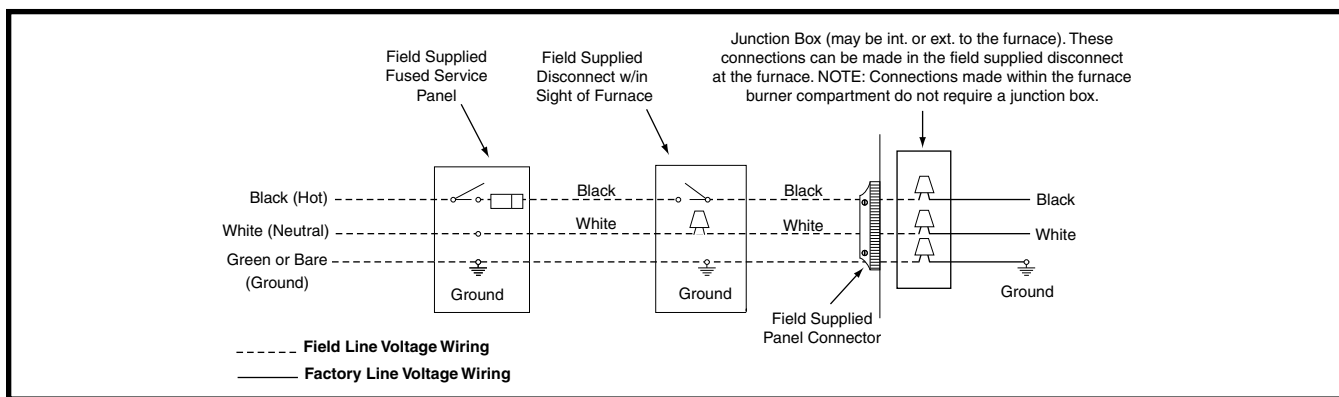
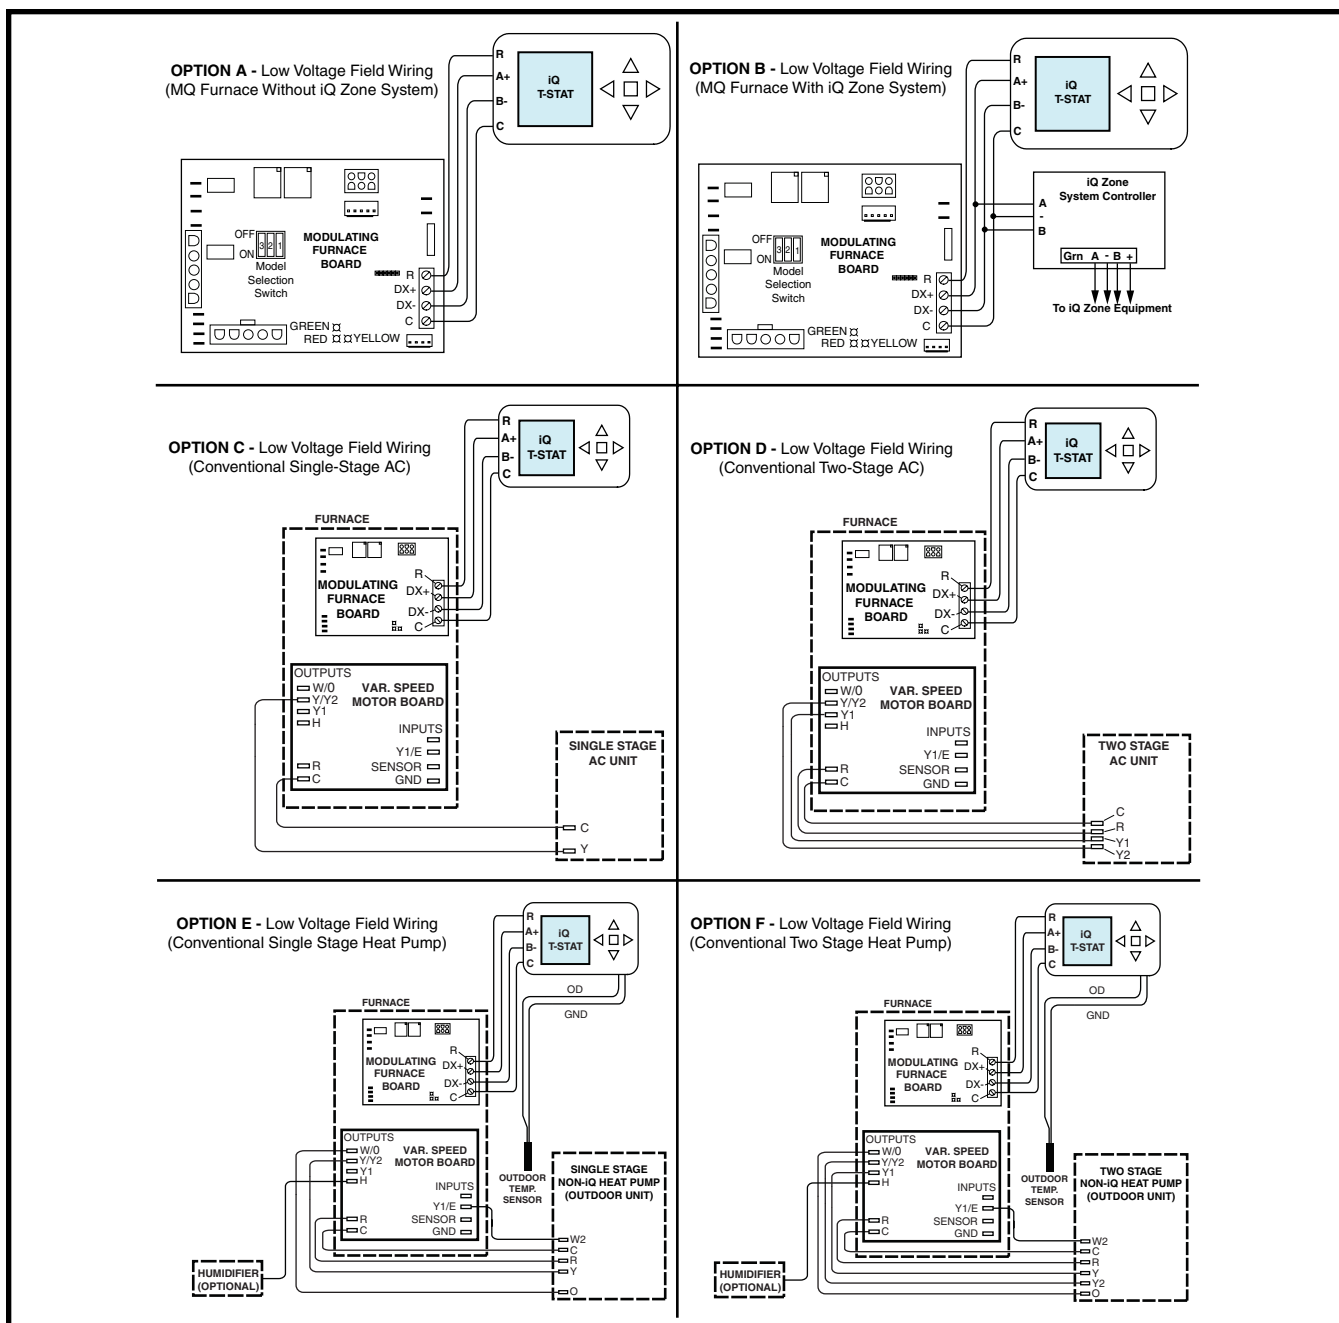

Figure 19. Line Voltage Field Wiring
Figure 20. iQ Wiring Configurations
- **An electrical disconnect must be installed readily accessible from and located within sight of the furnace. See Figure 19 or the wiring diagram label inside of the control door. Any other wiring methods must be acceptable to authority having jurisdiction.**
- **Proper line voltage polarity must be maintained in order for the control system to operate correctly. Verify the incoming neutral line is connected to the white wire and the incoming “Hot” line is connected to the black wire. The furnace will not operate unless the polarity and ground are properly connected as shown in Figure 19.**
Field wiring instructions for all iQ system equipment can be found in the iQ Drive System Field Wiring Instructions (P/N 709031). The iQ Drive® thermostat is connected to the furnace by running 4 wires from the thermostat to terminal P5 on the furnace control board. If this MQ furnace is part of an iQ Zone system, refer to Figure 20, \(page 24\). **Field supplied wiring is recommended to be a 4 wire shielded cable and must be a minimum of 18 gauge.**
If installing a single or two-stage conventional heat pump, it is recommended that an outdoor temperature sensor (920938) be installed on the system. The sensor connects to the iQ thermostat as shown in Options E & F in Figure 20, \(page 24\) and measures the outdoor temperature at the unit. The outdoor temperature is displayed on the main screen of the iQ thermostat and the system switches between furnace and heat pump based on the outdoor temperature.
- Verify the thermostat wires (**R**, **DX+**, **DX-**, & **C**) are securely connected to the correct leads on the terminal strip of the circuit board. See Figure 20, \(page 24\).
The operating sequences for the heating, cooling, and fan modes are described below. Refer to the field electrical diagrams and furnace wiring diagrams. See Figure 19, \(page 24\), Figure 20, \(page 24\) and Figure 25, \(page 32\).